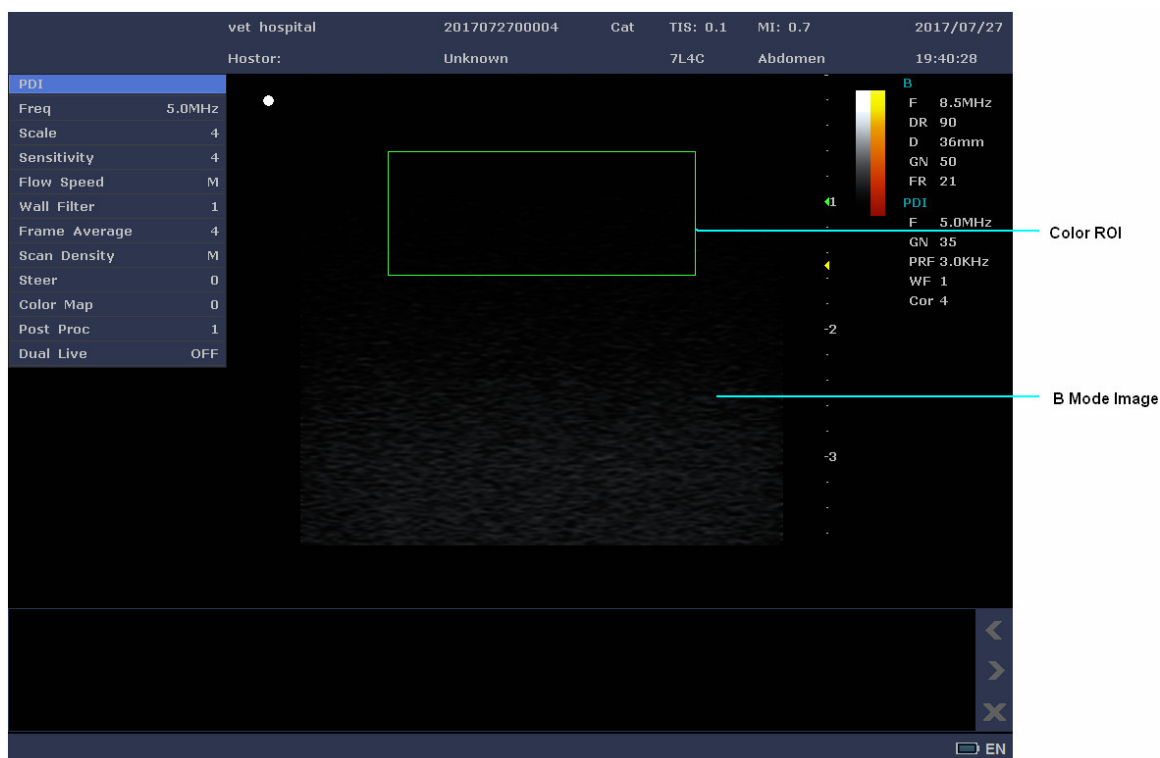

Figure 6-5 PDI Mode Image
2. Press the **PDI** key on the control panel to enter the PDI mode, as shown in Figure 6-5.